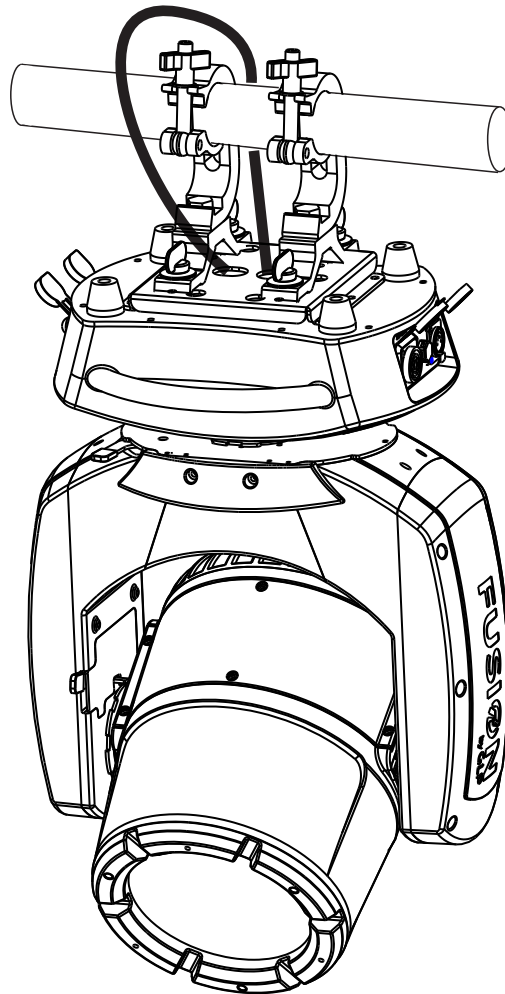
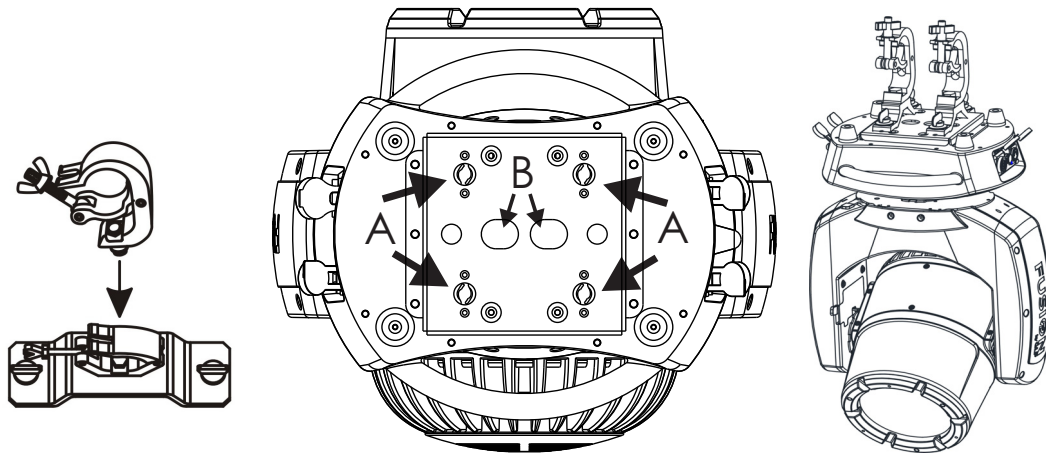

Figure 3. Safety cable attachment
Figure 4. Omega bracket fasteners
2. See Figure 3 and Figure 4. Fasten the safety cable through the slot "B" on the underside of the fixture base. Check that the fixture is now secured.
2. Line up the fasteners of the Omega bracket with the holes "A" in the base of the EXO Beam 10 as shown in Figure 4. The brackets may be installed either way round so the cabling is in line with the bar or at right angles to it.